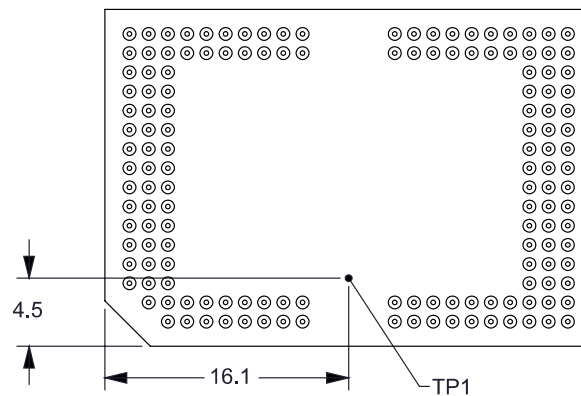

图 7-4. DMD Thermal Test Points
When designing the DMD heatsink solution, the package thermal resistance from array to reference ceramic temperature (thermocouple location TP1 in 图 7-4) can be used to determine the temperature rise through the package as given by the following equations:
- $T_{\text{CERAMIC}}$  = measured ceramic temperature, at the TP1 location in 图 7-4 ( $^{\circ}\text{C}$ )
- $Q_{\text{ARRAY}}$  = total power, electrical plus absorbed, on the DMD array (W)
- $Q_{\text{ELECTRICAL}}$  = nominal electrical power dissipation by the DMD (W)
- $Q_{\text{ILLUMINATION}}$  = absorbed illumination heat load (W)
- $Q_{\text{INCIDENT}}$  = incident power on the DMD (W)